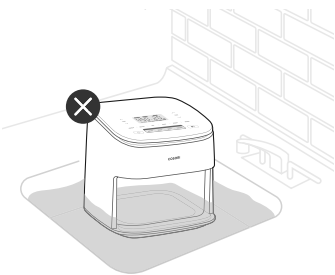

Figure 3.1
5. Clean the inside of the air fryer with a slightly moist, non-abrasive sponge or cloth. **Do not** immerse in water. If needed, clean the heating coil to remove food debris. [Figure 3.1]